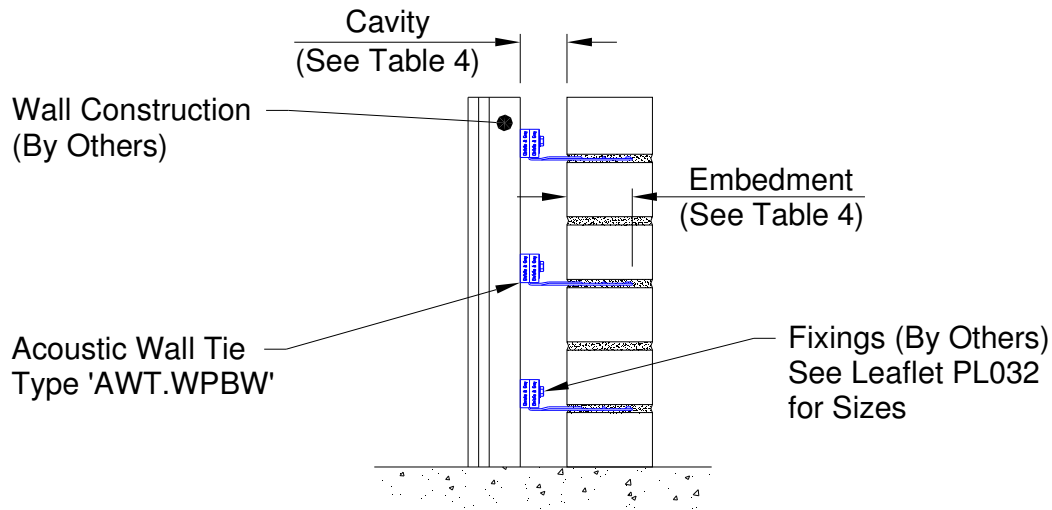

Figure 7
- f). Acoustic wall tie type AWT.WPBW for wind post to brick/blockwork walls (See Figure 7 and Table 4). Note: Maximum 3mm compression of rubber components. Do **NOT** overtighten.